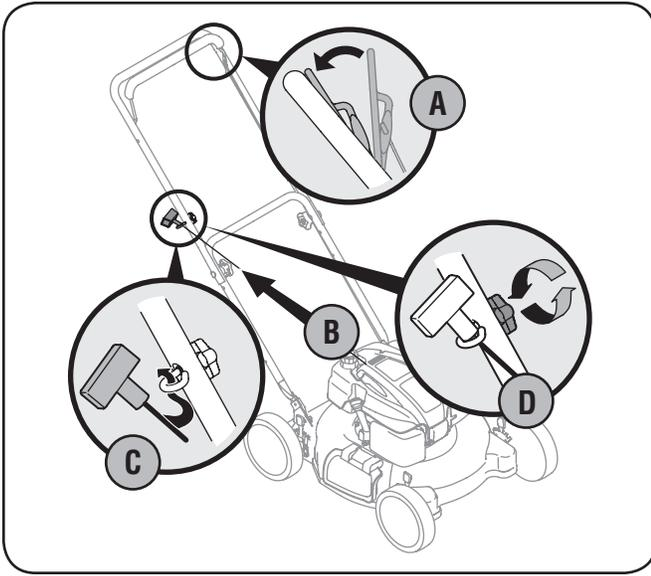

Figure 3-3
- The rope guide is attached to the right side of the upper handle. See Fig. 3-3. Loosen the wing nut which secures the rope guide.